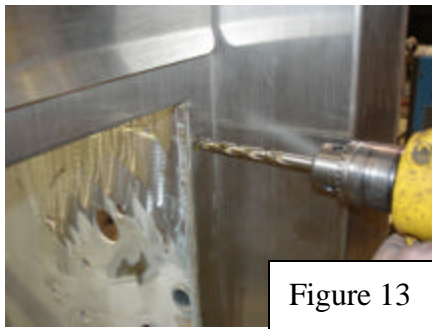

Figure 13
20. Drill marked holes 3/8" for inner weather seal (figure 13)